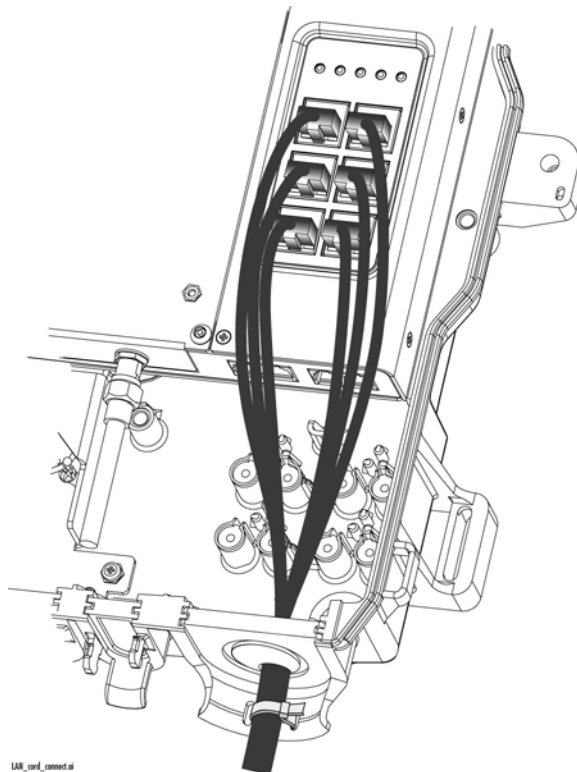

Figure 24. Connecting the LAN Cables
- I. Connect the LAN cables to the RJ-45 ports on the gateway, as shown in Figure 24